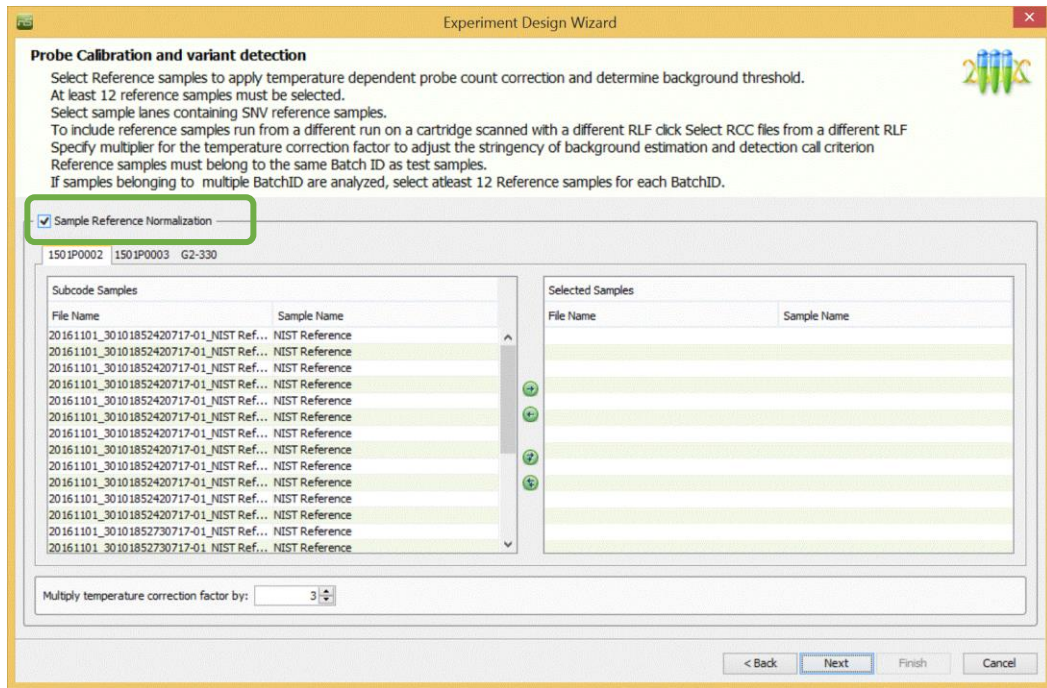

Figure 79: Probe calibration window for SNV data
- **Probe Calibration** must be performed on at least 10 reference samples. These reference samples are used as a benchmark to which probe count levels are compared to detect variants. Datasets from different RLFs are represented on different tabs (see Figure 79). Move selected reference samples from the *Subcode Samples* window to the *Selected Samples* window using arrows.